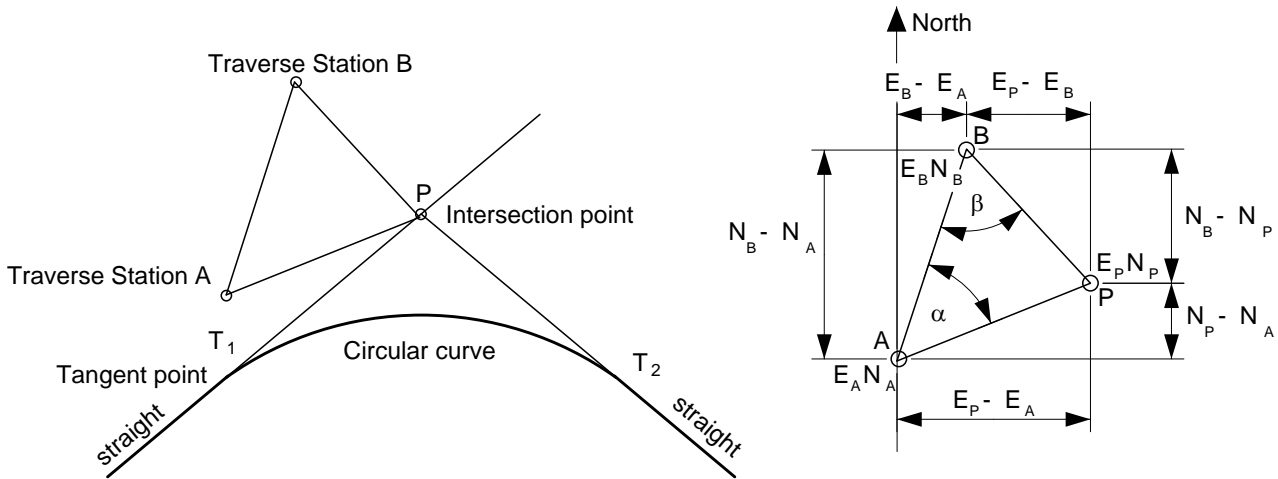

Figure 3: Coordinate geometry of traverse stations and a third point
Figure 3 shows two traverse points of known coordinates, A and B, together with a third point, P, where P is the intersection point of one of the circular curves on the by-pass. The Easting (E) and Northing (N) coordinates of P are known and its position has to be established in the field by measurements taken from the already-established traverse points. Typically, P can be established by either: